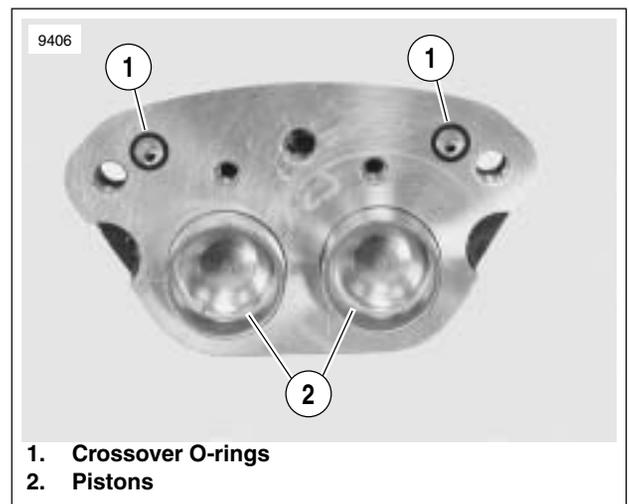

Figure 2-46. Crossover O-rings and Pistons
- Apply low pressure compressed air (1) to banjo bolt hole to remove pistons from caliper bores.
- See Figure 2-46. Remove and discard both crossover O-rings (1) from inside caliper housing.
- If necessary, wiggle pistons (2) from caliper bores to completely remove.
4. See Figure 2-46. Place two **new** crossover O-rings (1) on inside caliper housing.